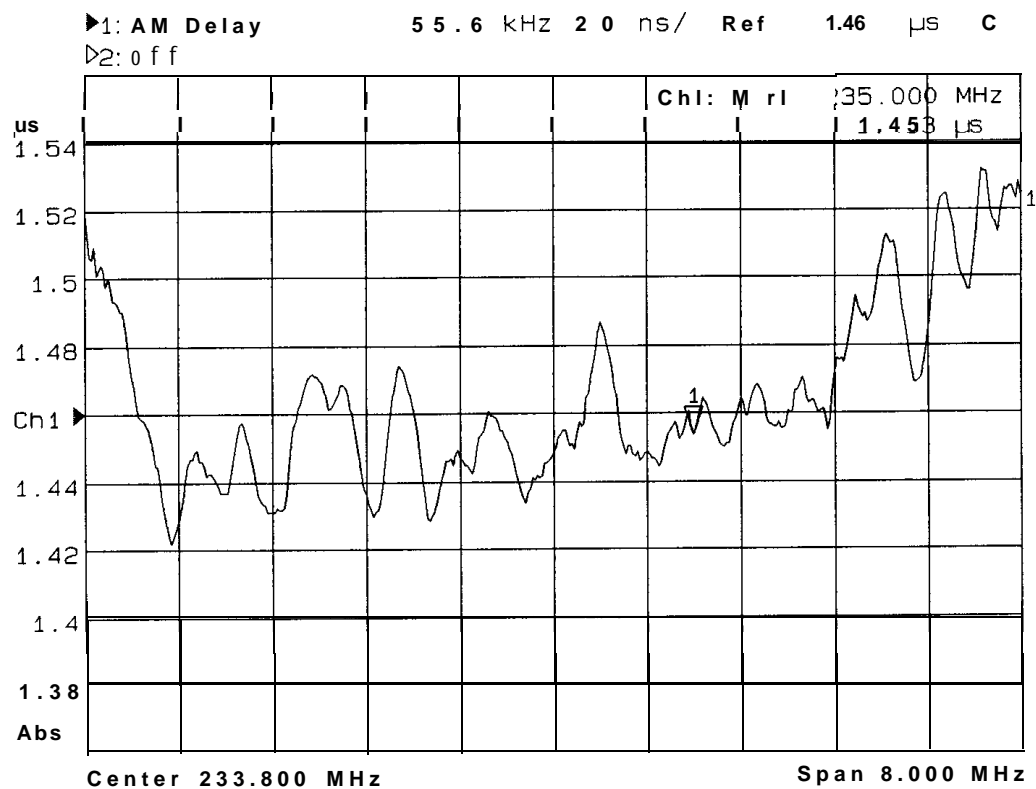

Figure 3-18. Example of an AM Delay Measurement
2. To interpret the AM delay measurement, refer to Figure 3-18.